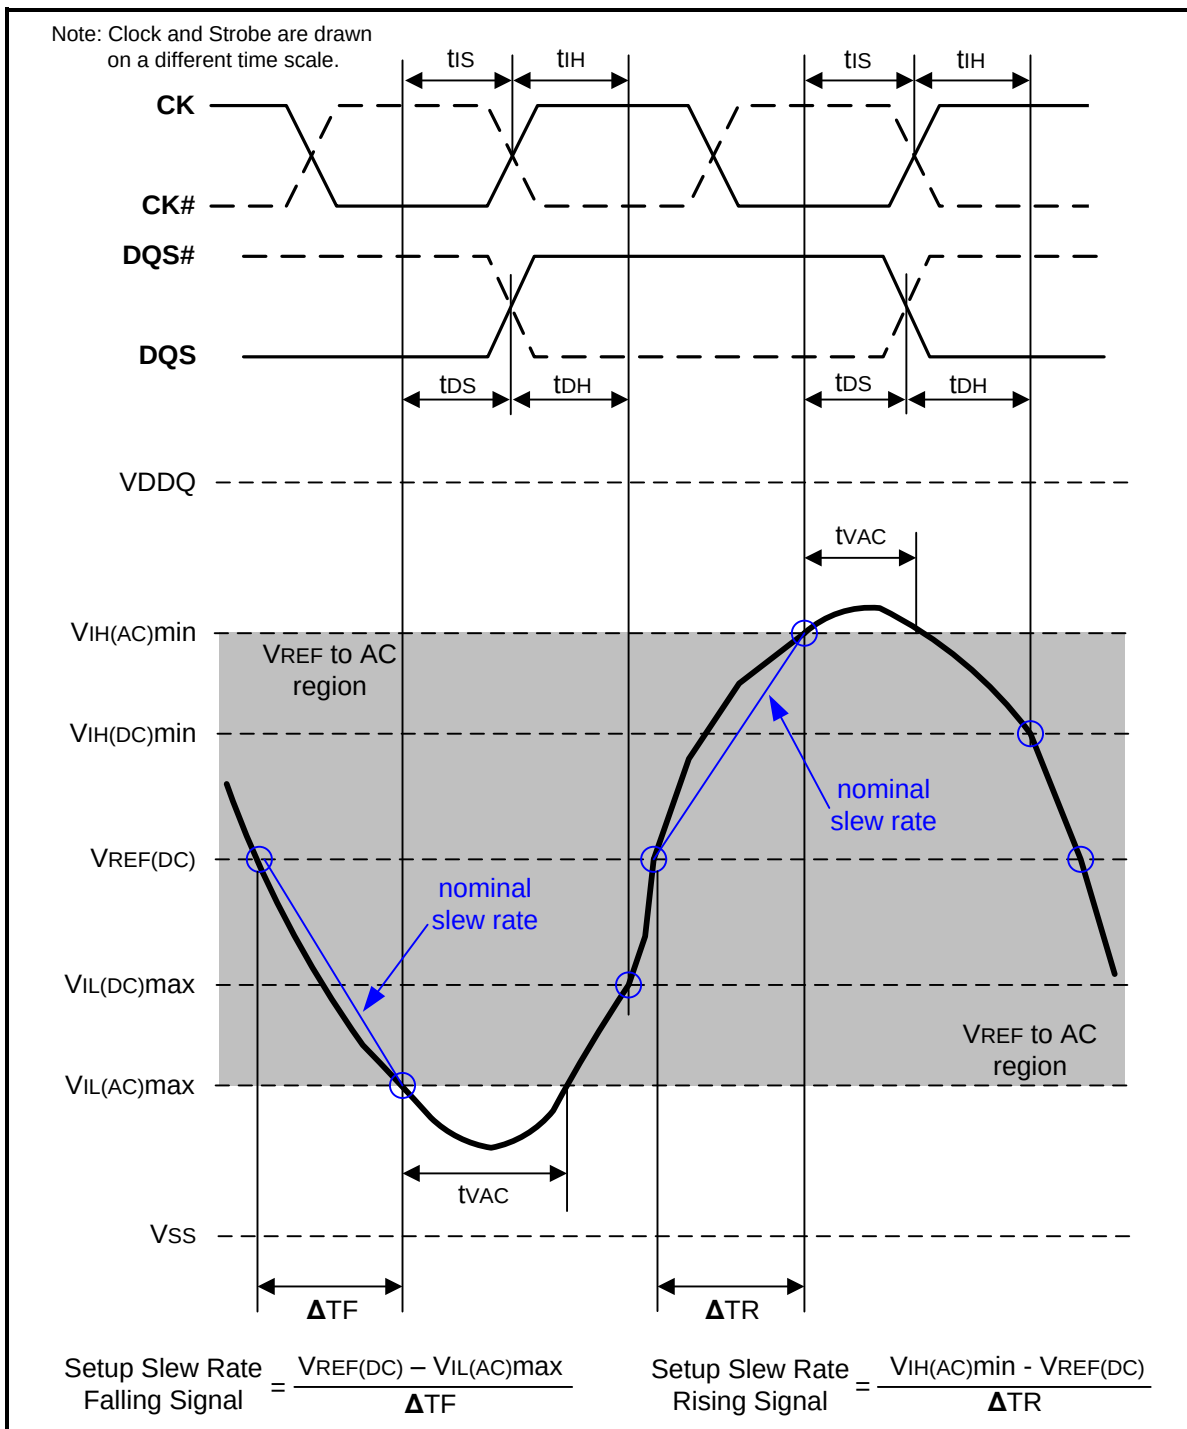
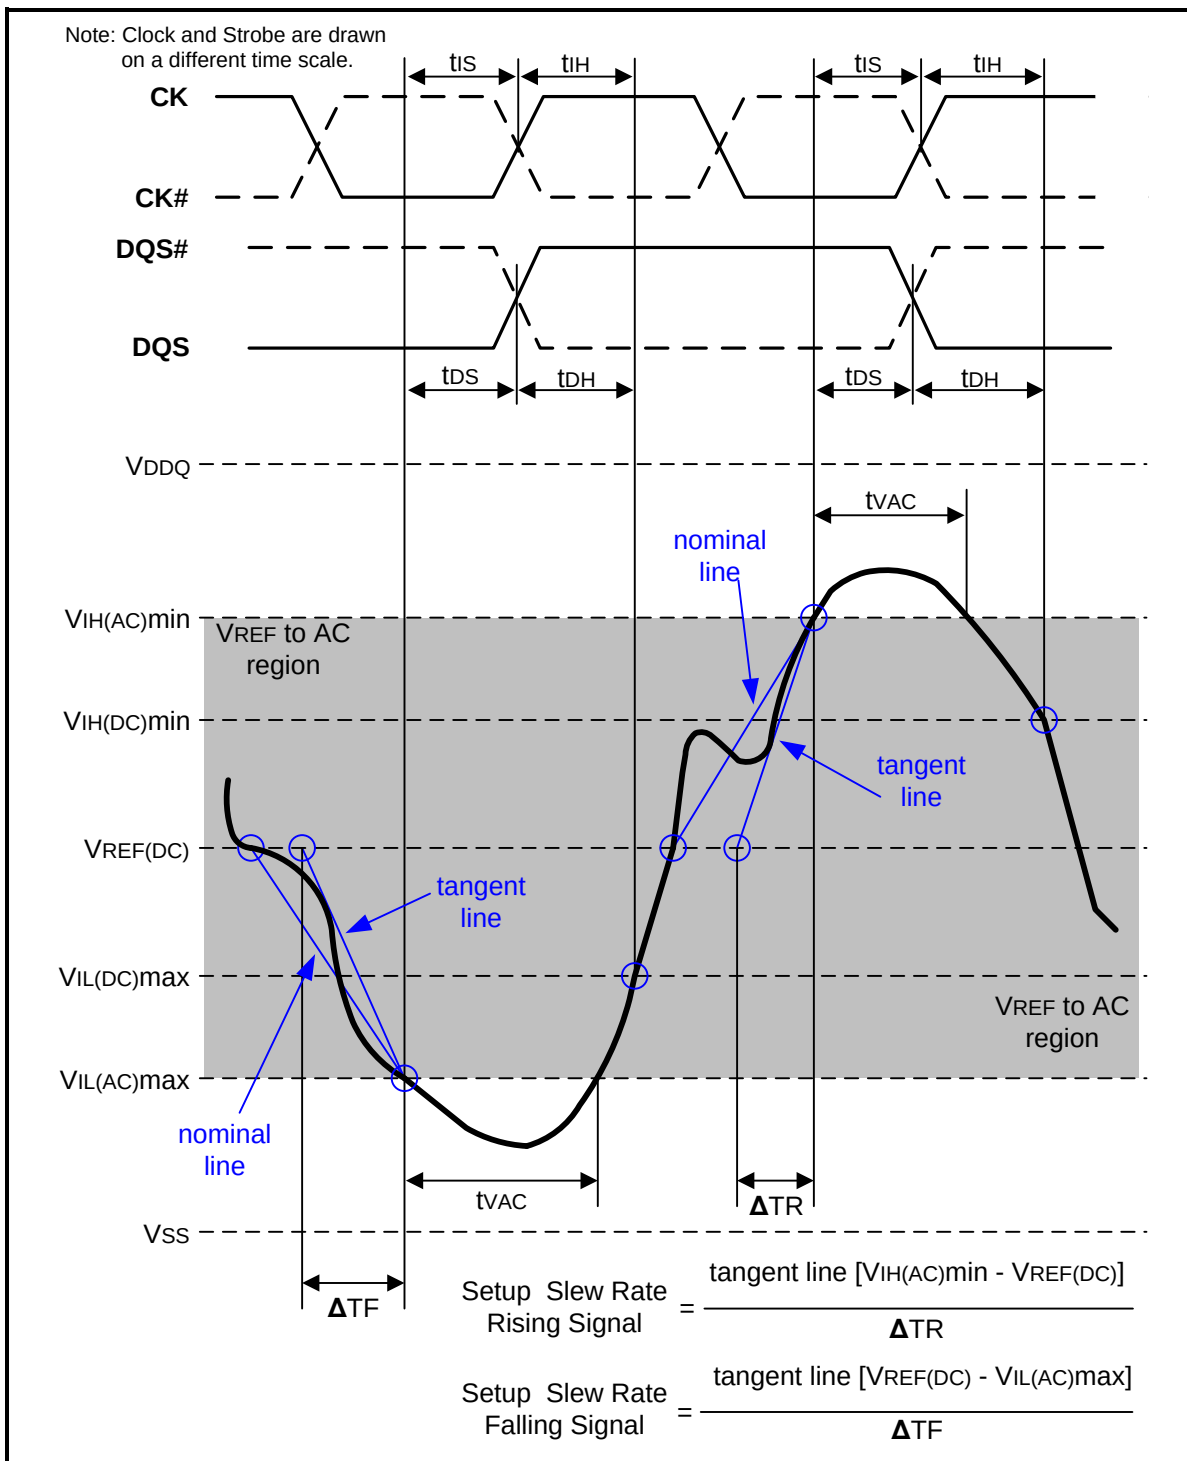

Figure 107 – Illustration of nominal slew rate and t_{vAC} for setup time t_{DS} (for DQ with respect to strobe) and t_{IS} (for ADD/CMD with respect to clock)
Figure 109 – Illustration of tangent line for setup time tDS (for DQ with respect to strobe) and tIS (for ADD/CMD with respect to clock)
Setup (t_{IS}) nominal slew rate for a rising signal is defined as the slew rate between the last crossing of $V_{REF}(\text{DC})$ and the first crossing of $V_{IH}(\text{AC})_{\text{min}}$. Setup (t_{IS}) nominal slew rate for a falling signal is defined as the slew rate between the last crossing of $V_{REF}(\text{DC})$ and the first crossing of $V_{IL}(\text{AC})_{\text{max}}$. If the actual signal is always earlier than the nominal slew rate line between shaded 'VREF(DC) to AC region', use nominal slew rate for derating value (see Figure 107). If the actual signal is later than the nominal slew rate line anywhere between shaded 'VREF(DC) to AC region', the slew rate of a tangent line to the actual signal from the AC level to $V_{REF}(\text{DC})$ level is used for derating value (see Figure 109).
Setup (tDS) nominal slew rate for a rising signal is defined as the slew rate between the last crossing of VREF(DC) and the first crossing of VIH(AC)min. Setup (tDS) nominal slew rate for a falling signal is defined as the slew rate between the last crossing of VREF(DC) and the first crossing of VIL(AC)max (see Figure 107). If the actual signal is always earlier than the nominal slew rate line between shaded 'VREF(DC) to AC region', use nominal slew rate for derating value. If the actual signal is later than the nominal slew rate line anywhere between shaded 'VREF(DC) to AC region', the slew rate of a tangent line to the actual signal from the AC level to VREF(DC) level is used for derating value (see Figure 109).